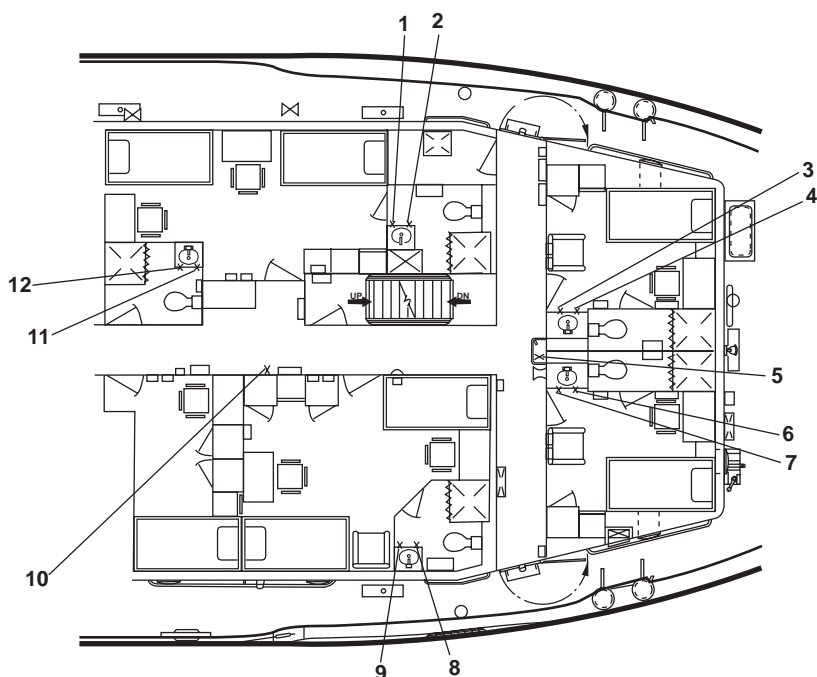

Figure 15. 01 Level Potable Water Valves
- (1) PW-61 (figure 15, item 1), cold potable water to the sanitary space
- (2) PW-26, C.W. TO W.C. (figure 15, item 2)
- (1) PW-56 (figure 15, item 3), cold potable water to the sanitary space
- (2) PW-58 (figure 15, item 4), hot potable water to the sanitary space
- (1) PW-68 (figure 15, item 5), supply to drinking fountain
- (2) PW-62, C.W. TO W.C. (figure 15, item 10)
- (1) PW-55 (figure 15, item 6), cold potable water to the sanitary space
- (2) PW-57 (figure 15, item 7), hot potable water to the sanitary space
- (1) PW-60 (figure 15, item 8), hot potable water to the sanitary space
- (2) PW-59 (figure 15, item 9), cold potable water to the sanitary space
- (1) PW-63 (figure 15, item 11), cold potable water to the sanitary space
- (2) PW-64 (figure 15, item 12), hot potable water to the sanitary space